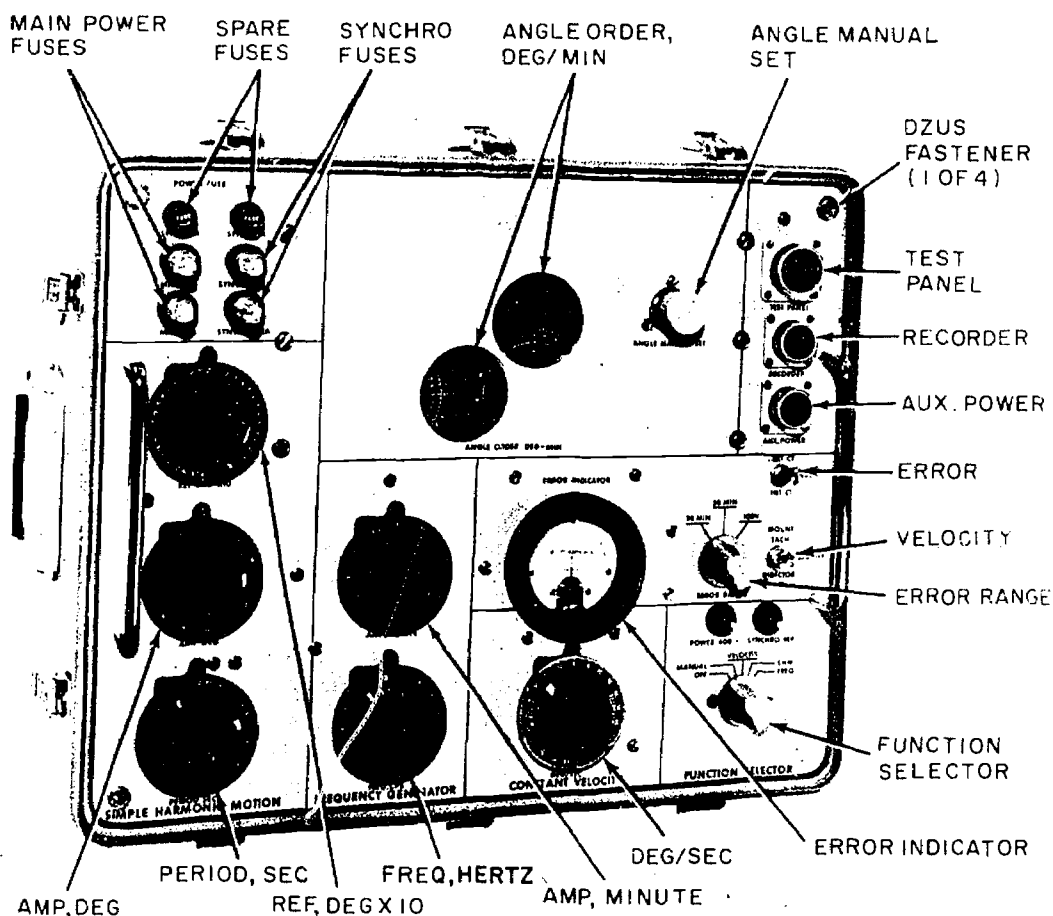

Figure 10-3.—Dummy Director Mk 6 Mod 0, control panel.
Dummy directors have been in use for many years, beginning with Mk 1. The one presently used with the Tartar and Terrier missile systems is the Mk 6 Mods 0 and 1. Figure 10-3 shows the control panel of the Mod 0. It was designed primarily for shipboard testing of guided missile launching systems. It does not replace test equipment used for laboratory, factory, shipyard, and installation tests. The records of installation tests are retained on board the ship, and the first record made with the dummy director and error recorder aboard the ship is kept for comparison with subsequent tests by the same test equipment. Each major unit of a ship's weapon system controlled by a synchro system and positioned by an electro-hydraulic power drive has a separate weapon system publication (OD) which lists all the individual shipboard tests conducted at the time of initial installation. Each major unit, a launcher, a gun mount, a rocket launcher, etc, is subject to a complete set of performance tests as detailed in an Installation Test Instruction OD for each unit installed. The results of all tests are recorded or added as
All manual controls, indicators, and connectors are located on the control panel (fig. 10-3) for the following operations. These tests are made for train and for elevation.